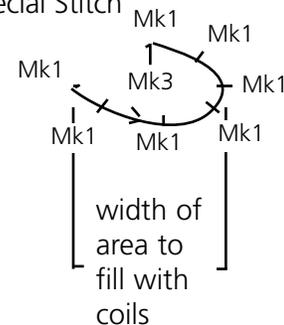

Figure 6-4
- Make the coil special stitch the size that is required to fill the inner body area (see Figure 6-4).
Make the coil special stitch the size that is required to fill the inner body area (see Figure 6-4).